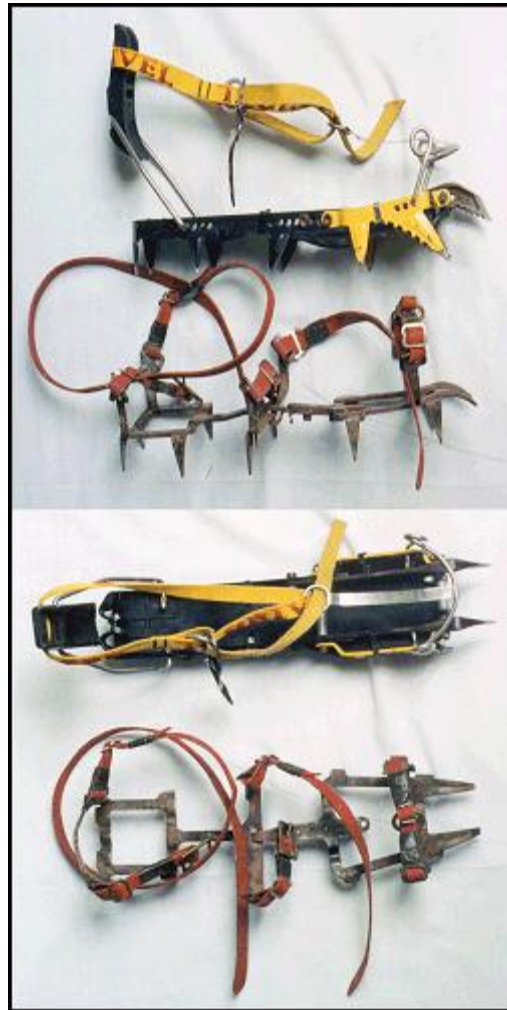

Figure 3-25. Crampons.
c. **Crampons.** Crampons are used when the footing becomes treacherous. They have multiple spikes on the bottom and spikes protruding from the front (Figure 3-25). Two types of crampons are available: flexible and rigid. Regardless of the type of crampon chosen, fit is the most important factor associated with crampon wear. The crampon should fit snugly on the boot with a minimum of 1 inch of front point protruding. Straps should fit snugly around the foot and any long, loose ends should be trimmed. Both